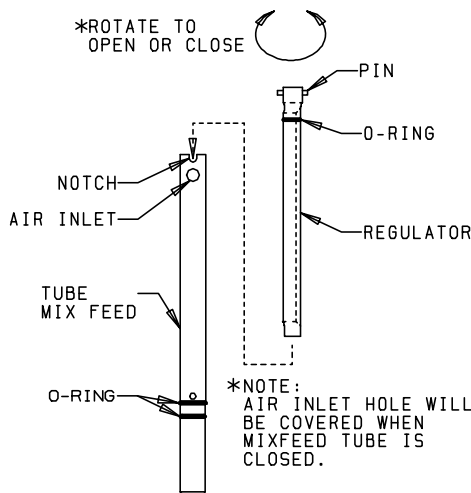

Figure 8-4 Assemble the mix feed tube
12. Install the O-rings on the mix feed tube and regulator as shown in figure 8-4.